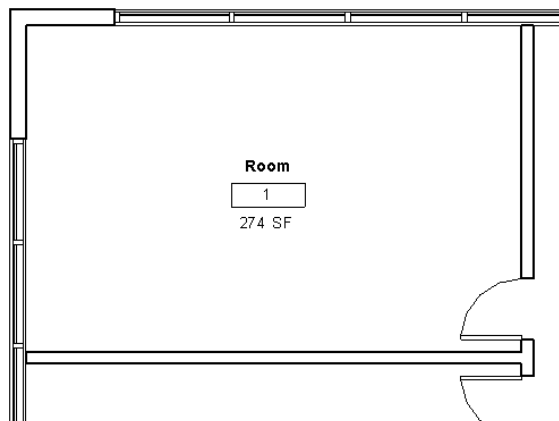

FIGURE 8.4 Room tag with area
4. From the Type Selector in the Properties palette, choose the Room Tag With Area option. The room tag shows the area based on your project units (Figure 8.4). In this case, the room is 274 square feet. This feature is incredibly helpful if you want to create rooms as your design develops; you can constantly confirm that your spatial program requirements are being maintained. As locations of walls are modified within your project, the room object will adjust accordingly and display the recalculated values defined.